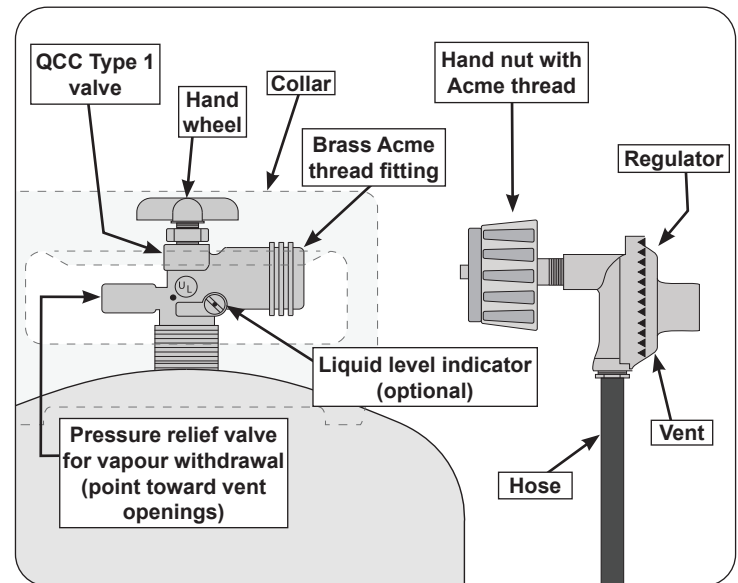

Fig. 7-1 Type I Acme thread coupler
- The cylinder used must include a collar to protect the cylinder valve. The cylinder supply system must be arranged for vapour withdrawal. See Fig. 7-1.
- When used with a cylinder, the gas supply system must be used with a pressure regulator. The pressure regulator and hose assembly (Fig. 7-1) **supplied with this outdoor gas appliance** (L.P. models only) must be used. Original and replacement pressure regulator and hose assemblies must be those specified by the manufacturer for connection with a cylinder connecting device identified as Type I by the ANSI Z 21.58/CGA 1.6 and must comply with UL 144 as a part of the self-contained LP gas supply system (see PARTS LIST for ordering information).
To disconnect: Turn the hand nut counterclockwise until detached (Fig. 7-1).